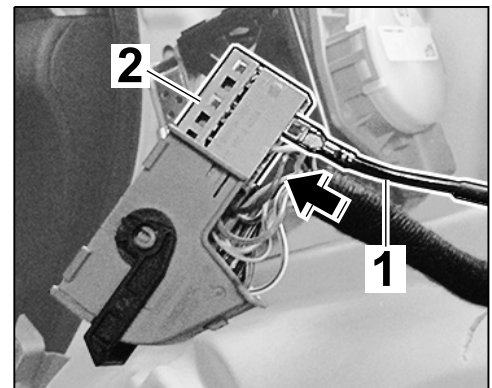

Figure 19
- 2.5.5 Insert socket contact ⇒ *Figure 19 -1-* into chamber A2 of the grey plug socket ⇒ *Figure 19-2-*.